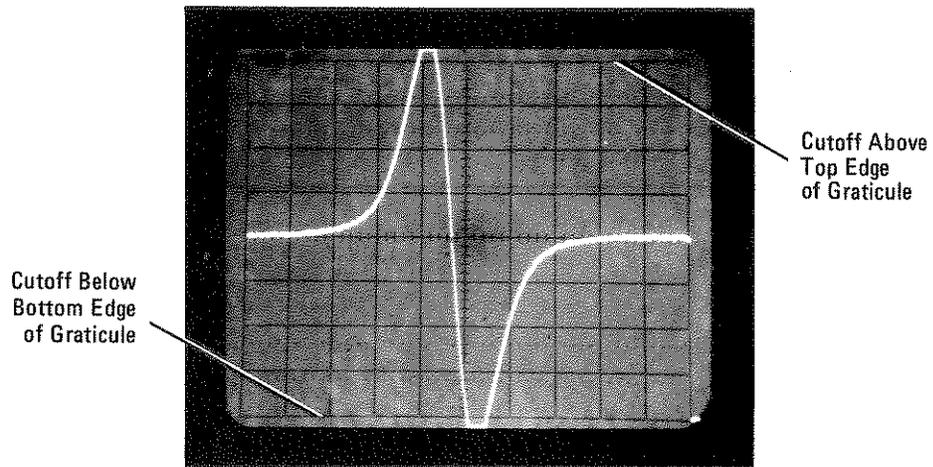

Figure 3-30. CRT Trace With Front-Panel VERT GAIN Control Correctly Adjusted
- k. On the 8557A, 8558B or 8565A, adjust the TUNING control slightly to obtain a trace that flattens at the top and bottom as shown in Figure 3-30.
- l. Adjust the 8750A VERT GAIN control to move both flat cutoff sections of the trace outside the top and bottom of the CRT graticule area (See Figure 3-30).